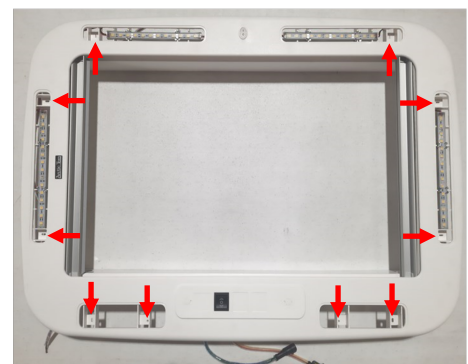

Figure 5
9. Now you may install the trim ring. Place the trim ring in place against the roof hatch and use the screw locations to drill a 7/64" pilot hole for the ten 1" screws that will be used to attach the trim ring to the ceiling. The screw locations are shown to the right in *Figure 5*. Make sure your incoming power and ground are situated near the corner where the hatch electrical connectors are located.